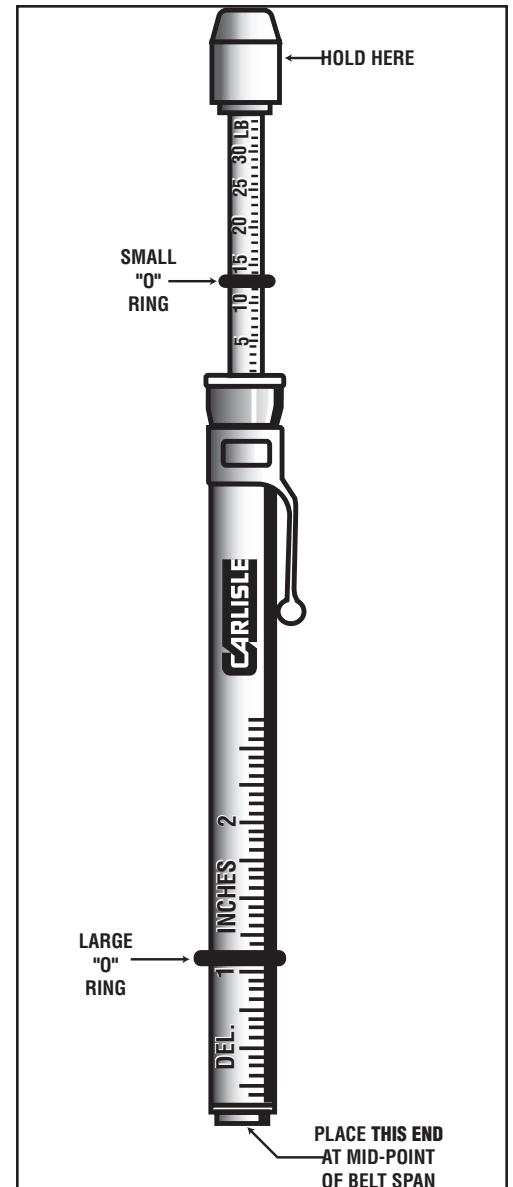

Figure 28 V-BELT TENSIO METER (Part No. 102761)
2. Set the small "O" ring at zero and press down the Carlisle Tensiometer at the center of the belt span (See Figure 28).